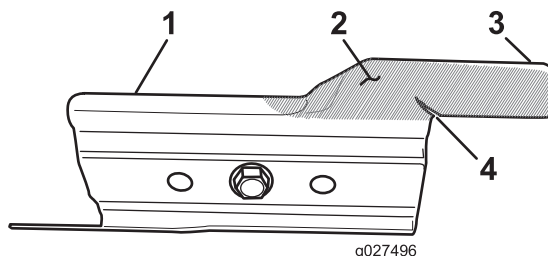

Figure 25
Carefully examine the accelerator for excessive wear (Figure 25). Because sand and abrasive material can wear away the metal (especially in the area shown as item 2 in Figure 25), check the accelerator before using the machine. If you notice that a tab on the accelerator has been worn down to a sharp edge or there is a crack, replace the accelerator; refer to Inspecting the Accelerator (page 20).